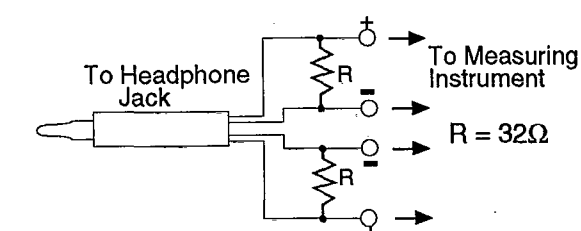

Fig. 2
4. Alternately adjust the two mechanical adjusting screws with the 2.0 mm allen wrench (SZZP1101C) until the RF signal amplitude variation on the oscilloscope is minimized. (Shown in Fig. 2, page 40)